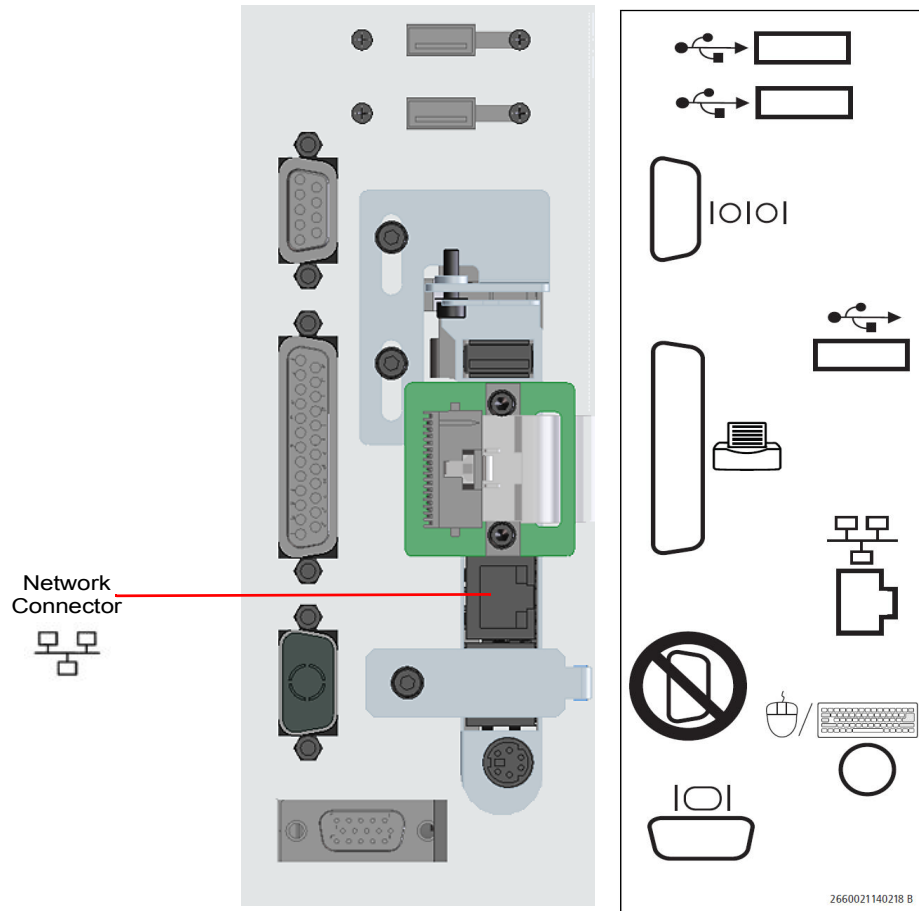

Figure I.1 Location of the Network Connector (Panel and Label)
- 1 Locate the network connector on the connections panel at the rear of the HFA II-*i*. The panel is located under a snap-on cover. See Figure 1.9, "Rear View of the HFA II-i with Panel Removed," on page 1-30. The network connector is located on the panel as is shown in Figure I.1. The connector on the instrument panel is identified with an Ethernet symbol (as shown on the left) on the label that is attached to the adjoining panel.